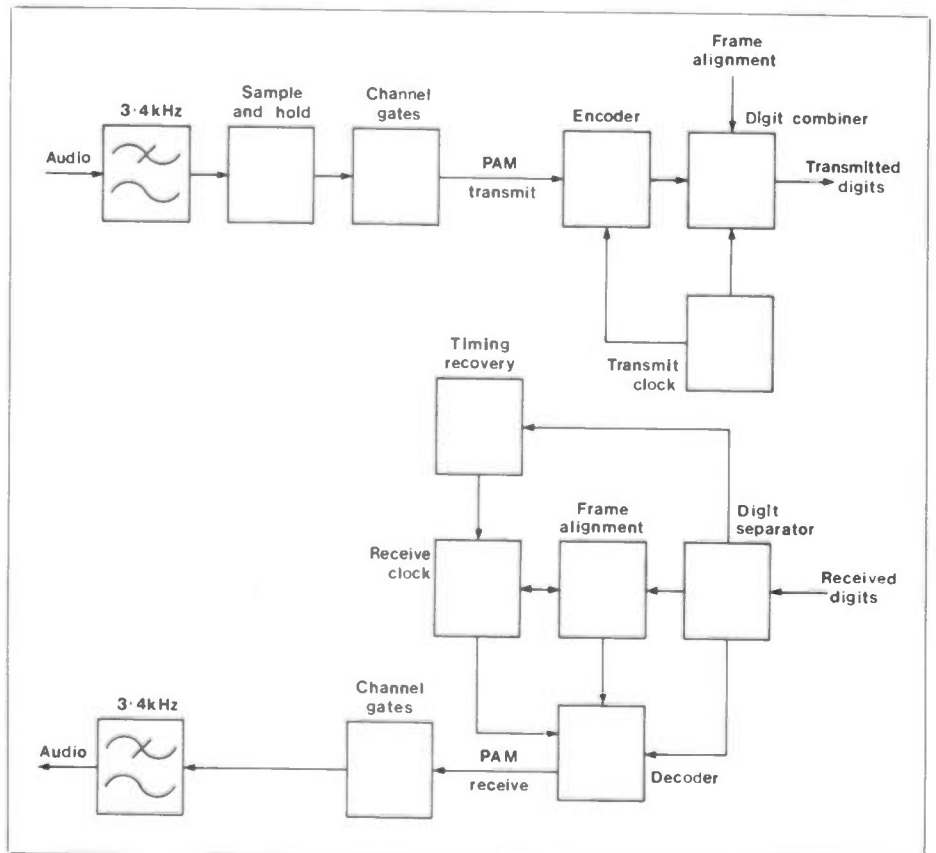
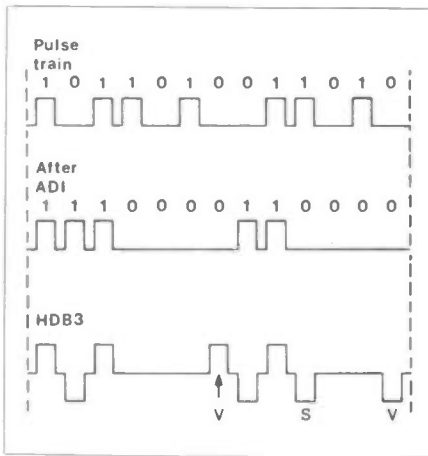

Figure 25. Transmit/Receive Terminal
Figure 29. HDB3
turned into a ragged analogue shape. The equaliser turns the barely recognisable humps into little peaks which can be amplified and squared. The square pulse is then differentiated to provide timing spikes and the final clean bipolar pulse transmitted to the next repeater. A block diagram for a transmit/receive terminal is shown in Figure 25.
As in Figure 25, the frame alignment and signalling information is added to the bit stream after the speech signals have been processed. The signalling information consists of the telephone number being called and duration of the call. The composite signal then undergoes alternate digit inversion but instead of alternate mark as the next process, it is coded in high density bipolar 3 (HDB3). This HDB3 code has the same effect as AMI in preventing too many zeros. It does in fact, restrict the number of zeros to 3. When any group of 4 zeros is encountered, the last one is changed to a mark of the same polarity as the previous mark, Figure 29. This is called a 'Violation' (V) since it upsets the DC balance and if there are an even number of marks or there is no mark between each violation, then a substituted mark(s) is inserted in place of the first of the four zeros. The polarity of the substituted mark is opposite to that of the previous mark.